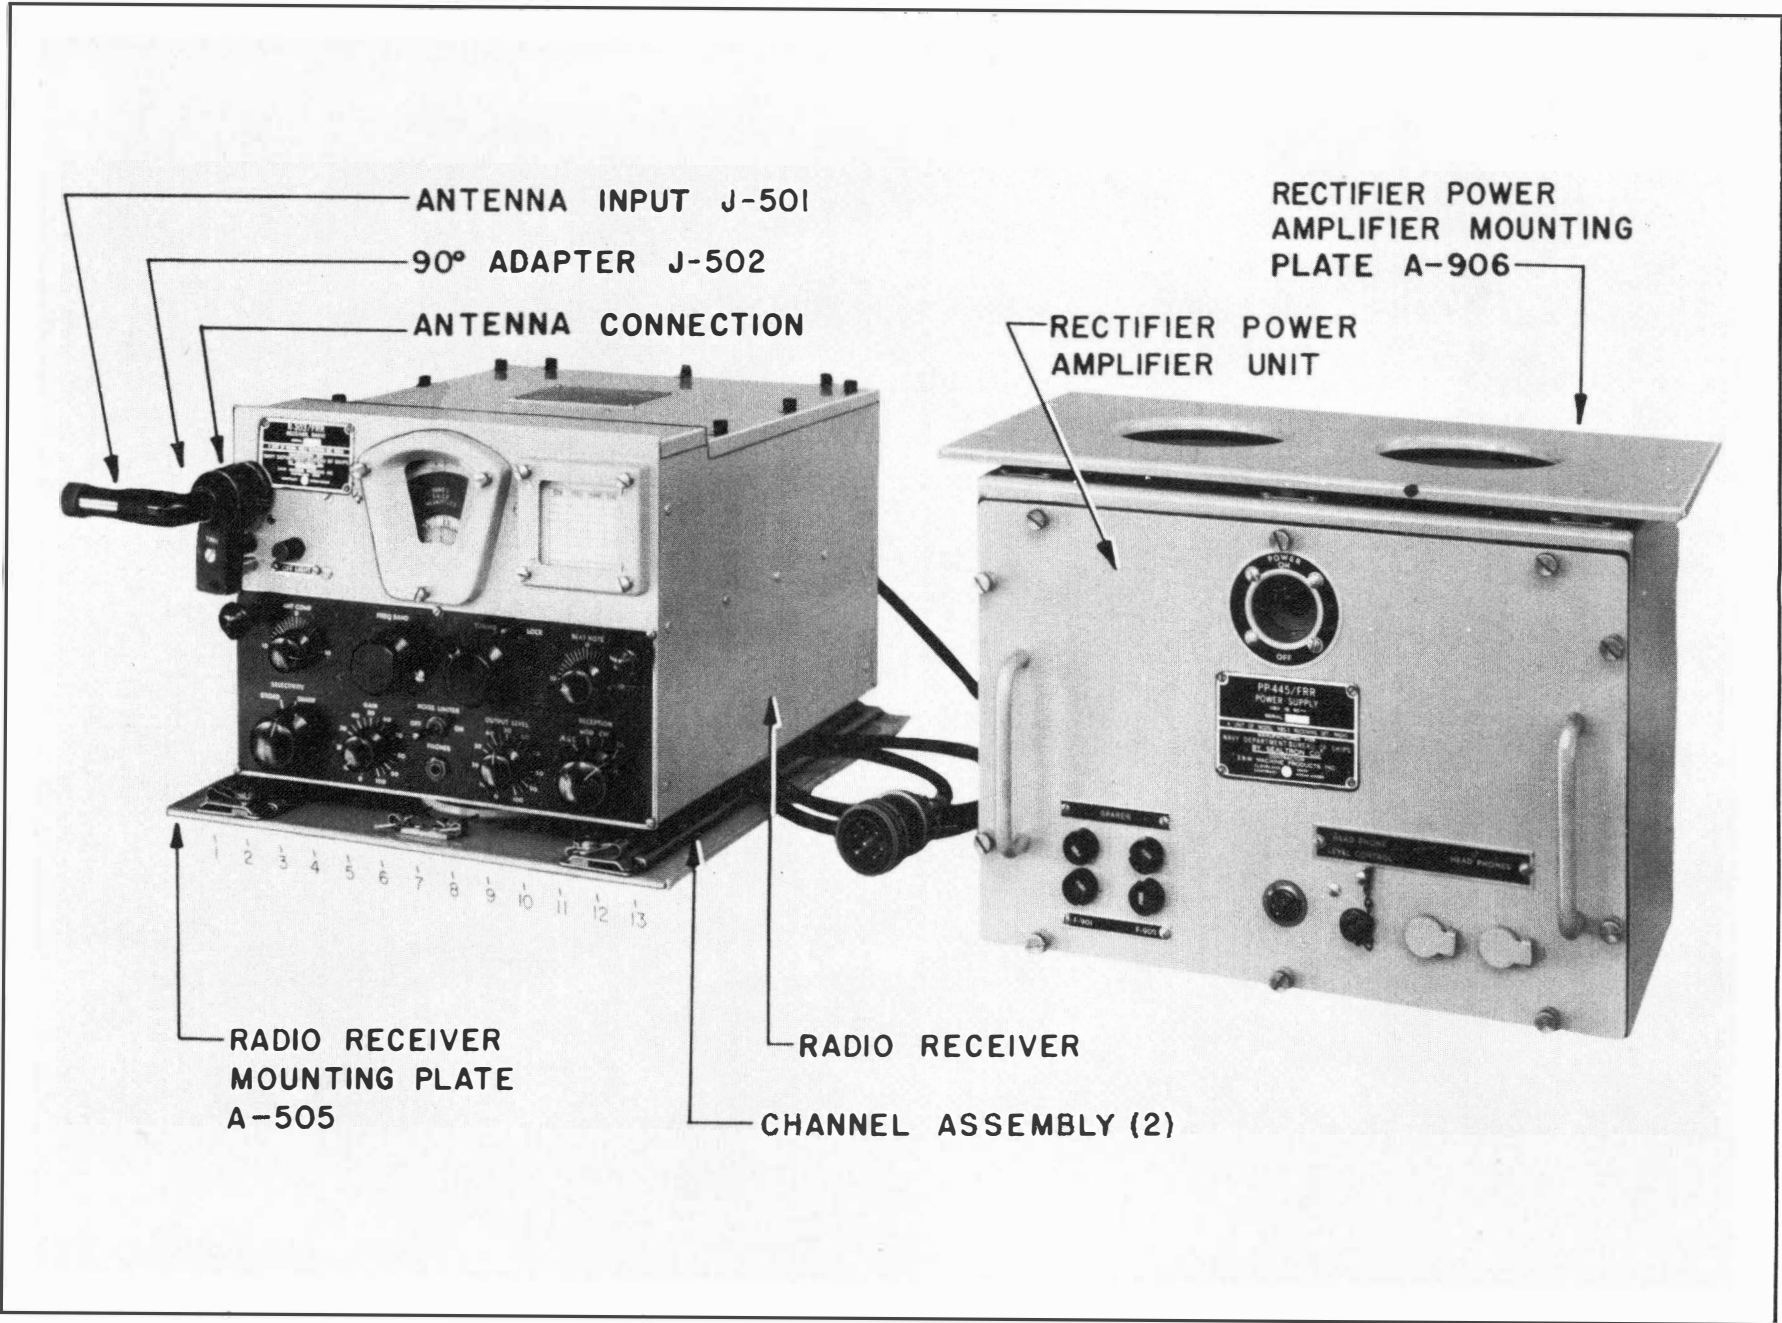

Figure 1-1. Radio Receiving Equipment, Model RBS-3
a. GENERAL.—Navy Model RBS-3 Receiving Equipment is designed for use aboard U. S. Navy vessels or at Naval radio shore stations. The receiver is a 14 tube superheterodyne with a frequency range of 2 to 20 megacycles covered in four bands. It can be used to receive either A1, A2, or A3 signals depending upon the position of the "RECEPTION" switch. The equipment is capable of delivering eight watts of audio power to the loudspeaker with less than 10 percent distortion. The equipment is ruggedly constructed for use under adverse conditions and is complete except for headphones, loudspeaker, loudspeaker cable, and power source cable. (See Figure 1-1).